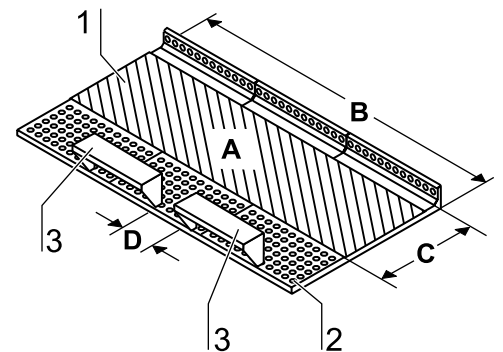

Fig. 10
**Fig. 10:** The working area **A** for perfect material protection extends over the entire width **B** and depth **C** of the workplate. The two optional arm rests [3] are positioned at a distance **D** (20 cm) to each other centrally on the workplate [1] or on the workplate segments. The armrests are installed to the first perforation line [2] of the workplate.